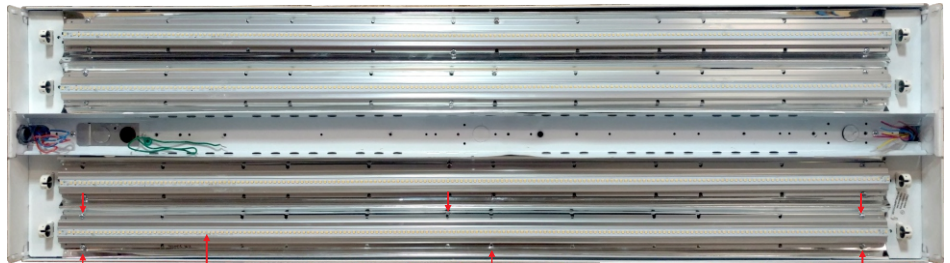

Figure 1
1. Start by Placing the LED Modules (A) onto the luminaire as shown on Figure 1.
2. Secure the LED Modules to the luminaire using the provided 6-20 x3/8" Pan Head Self Drilling Screws (D). See Figure 1.